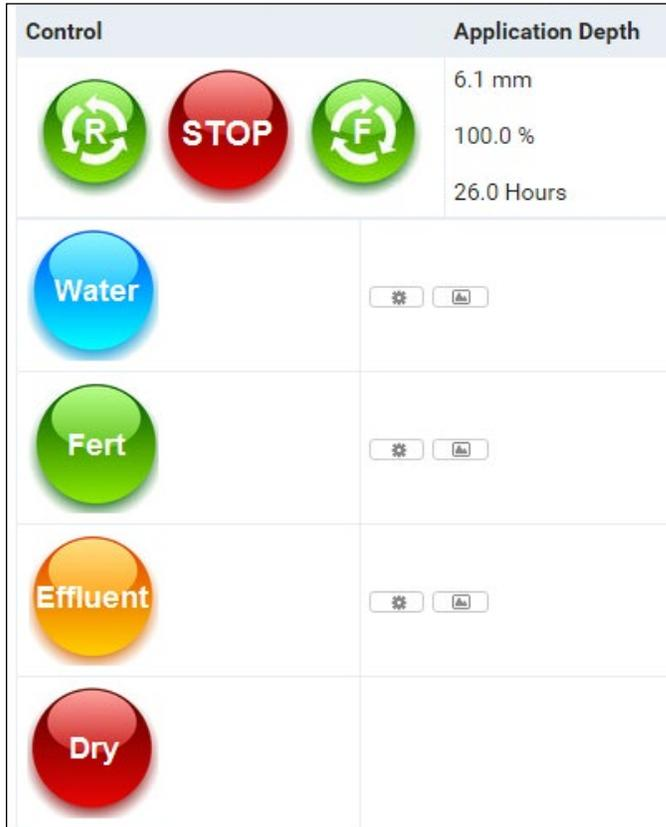

Figure 13-1
1. Select the  Scenario menu next to the desired application material. Refer to Figure 13-1.